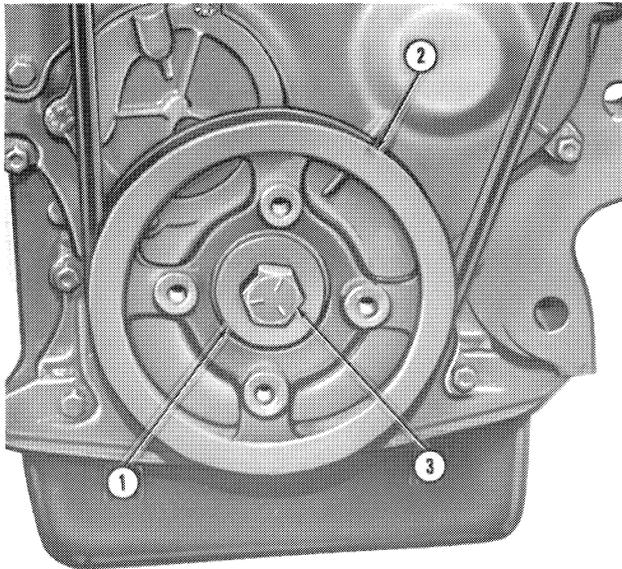
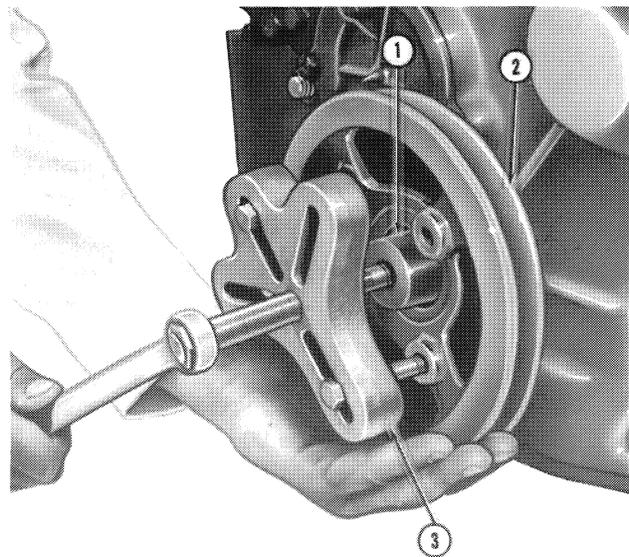

Figure 19
Figure 20
1. Remove the fan belt. Remove the bolt and washer from the crankshaft pulley, Figure 19, using Puller No. 9539 and Shaft Protector No. 9212, as shown in Figure 20. To use the puller for this purpose, 7/16 in. X 14 UNC bolts have to be used and the slots in the puller enlarged.